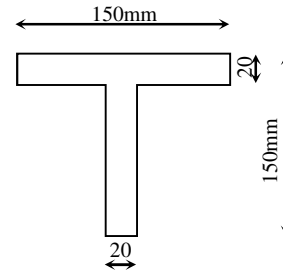

Fig. 3
- b) A Tee section measures 150mm X 150mm X 20mm as shown in figure 3. Calculate: